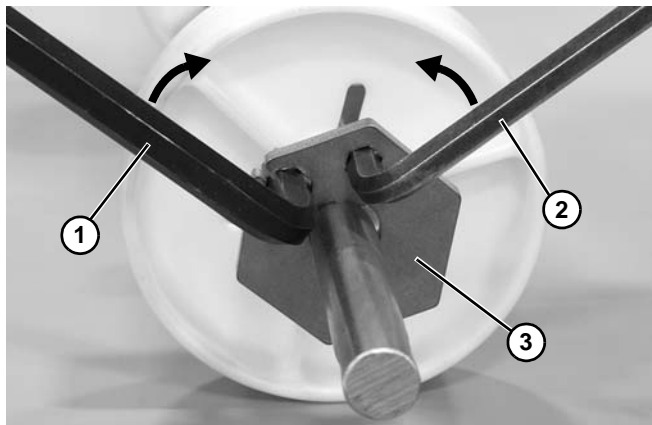

Figure 118
5. Insert an 8 mm (**Figure 118, item 1**) and 6 mm (**Figure 118, item 2**) hex wrench into the retainer plate.
6. Move wrenches toward each other to unlock the retainer plate (**Figure 118, item 3**) and remove from the shaft.